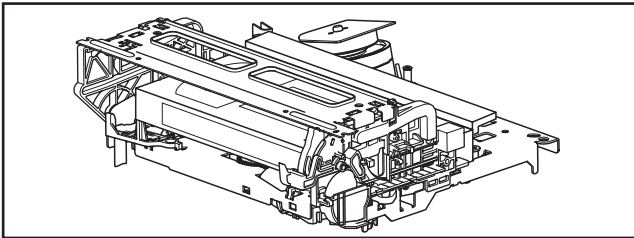

Fig.5-1a
- (1) Unplug the power cord plug from the power outlet.
- (2) Refer to the disassembly procedure of the unit and perform the disassembly of the major parts before removing the mechanism assembly. (See Fig. 5-1a)